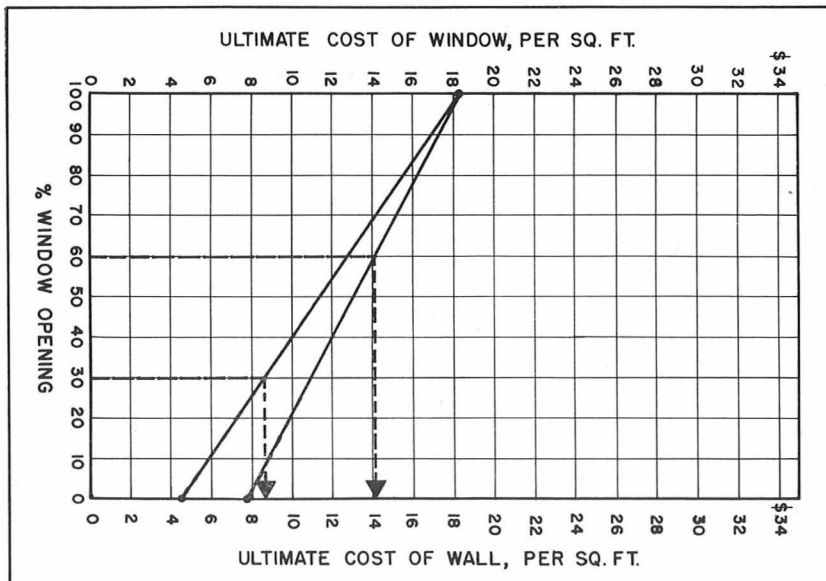

FIGURE 15
(In Figure 15 plot item 1(a) above on right scale and item 1(b) above on left scale. Connect these two points by straight line. From the point of intersection of this line and the vertical line representing 1(c) above proceed horizontally to read the ultimate cost of the composite wall. Record answer in line 1(d) above. If two composite walls are to be compared repeat this process and record the data below)
3. Difference in Ultimate Cost of Composite Walls, psf (Difference of items 1d and 2d)